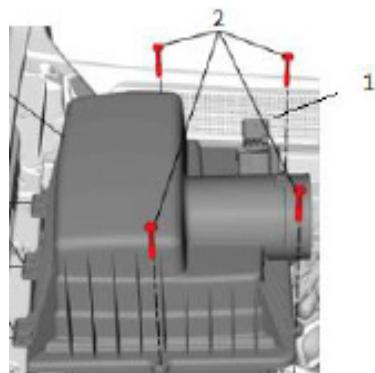

Figure 1
1. Unplug MAF sensor (1 in Figure 1). Loosen clamp and remove engine cover duct from factory airbox lid. Loosen four screws (2) and remove factory airbox lid from factory airbox housing. Airbox will not come out easily unless you remove the lid first.